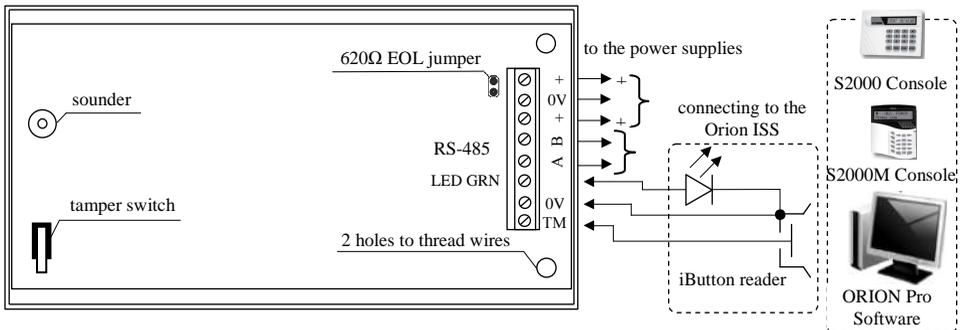

Figure 3. Module's Wiring Diagram
- 2.2.1. Connect wires to the module's terminals as shown in Figure 3.
- 2.2.5. Unless the module is the last or the first device in the RS-485 interface bus, remove the EOL jumper from the module's PCB (see Figure 3).
- 2.2.6. Connect the module to the external reader as shown in Figure 3.